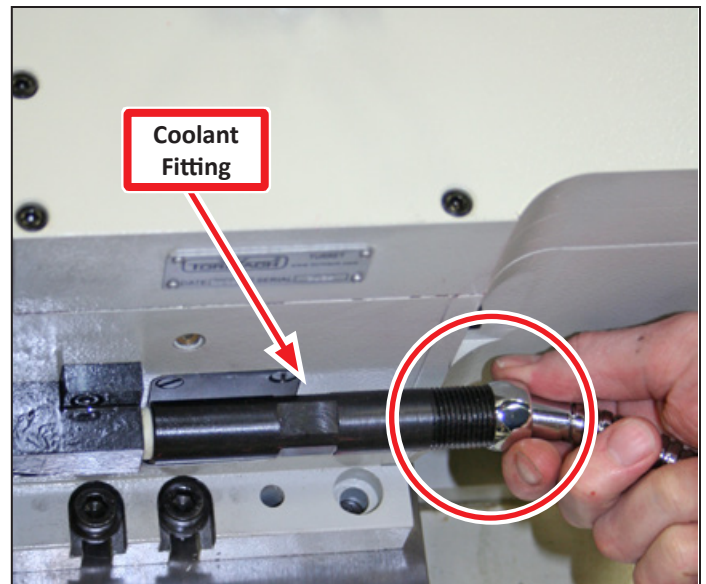

Figure 32
2. Screw on the lathe's coolant hose (see **Figure 32**).